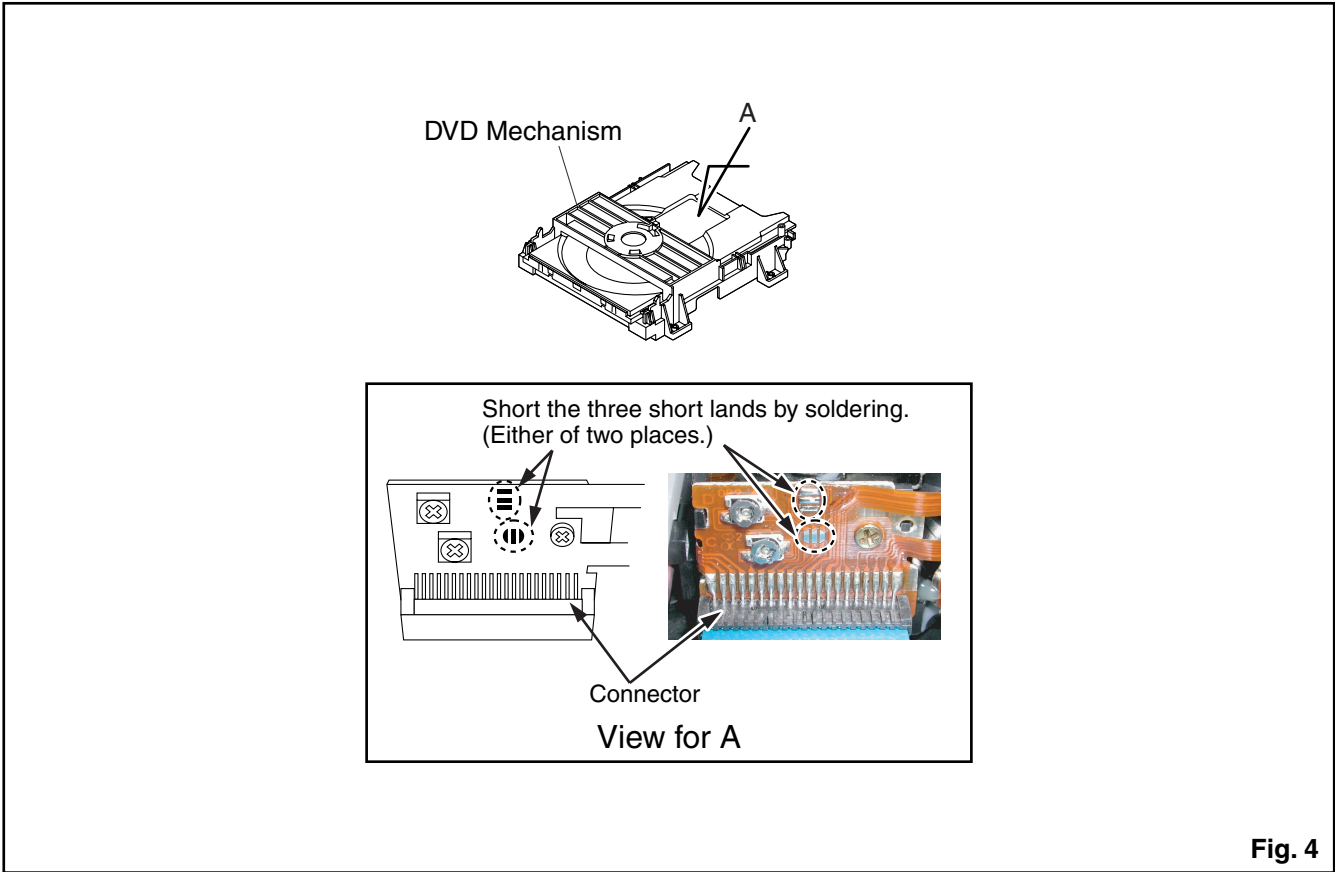

Fig. 4
- 2-3. Short the three short lands of FPC cable with solder before removing the FFC cable (CN201) from it. If you disconnect the FFC cable (CN201), the laser diode of pickup will be destroyed. (Fig. 4)
CAUTION 3: When reassembling, confirm the FFC cable (CN201) is connected completely. Then remove the solder from the three short lands of FPC cable. (Fig. 4)